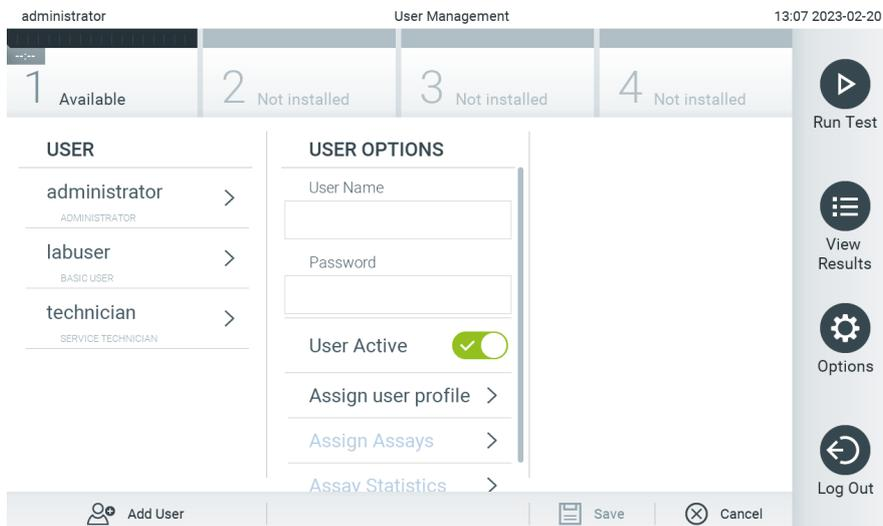

Figure 55. Adding a new user.
1. Press the **Options** button and then the **User Management** button to configure users. The **User Management** screen appears in the content area of the display (Figure 55).